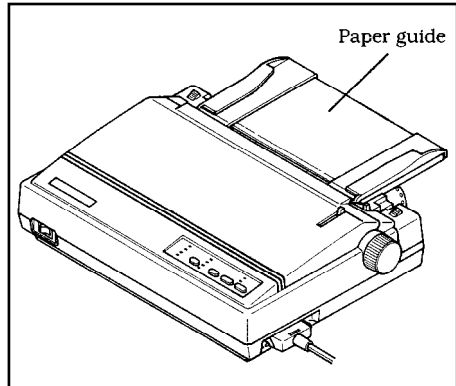

Figure 3-7. Close the rear cover, then set the paper guide horizontally.
9. Close the rear cover, then set the paper guide in the horizontal position, as shown in Figure 3-7. This will separate the printed from the unprinted paper.